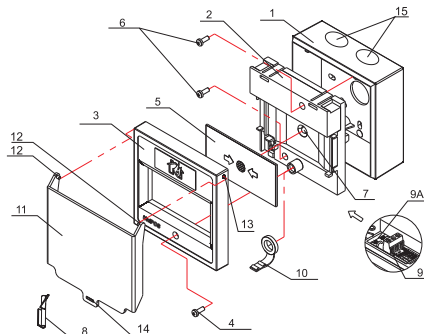

Fig.2
1. Tear off the breakable seal (pos.10, fig.2).
2. Open the protective cover (pos.11, fig.2).
3. Press the elastic element (pos.5, fig.2) in the designated by the arrows place. The build-in LED indicator lights up. The Conventional Fire Control Panel activates in "Fire condition".
3. Dismantle the cover (pos.3, fig.2) and replace the torn breakable seal.
4. Mount the cover back and lock the protective cover using the breakable seal (pos.11, fig.2).
- 1.1 Dismantle the detector by unscrewing the screws (pos.4, fig.2) and (pos.6, fig.2).
- 1.2 Consecutively add to the base of the manual call point the carrier unit, the elastic element (pos.5, fig.2) with the sticker to the cover, and the breakable seal (pos.5, fig.2). Screw the fixings (pos.4, fig.2) and (pos.6, fig.2).
- 1.3 Mount the protective cover (pos.11, fig.2) (if it is not factory mounted) to the cover (pos.3, fig.2), as carefully position the fixings (pos.12, fig.2) into the intended for that purpose openings (pos.13, fig.2).
- 1.4 Pass the spare end of the breakable seal through the opening of the protective cover (pos.14, fig.2). The protective cover is fixed to the front cover of the detector.
- 2.1 Dismantle the manual call point by unscrewing the screws (pos.4, fig.2) and (pos.6, fig.2).
- 2.2 If nozzles will be mounted, take off the plastic from the vacant places on the base (pos.15, fig.2). The openings with diameter Ø20 allow for connecting the nozzles.